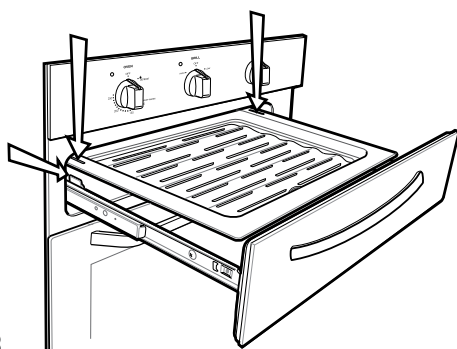

Fig. 3
- To insert the grill tray in a separate grill underbench product, fully open the drawer and position the tray so that the slots on the outer edges fit over the tabs on the slides. (Refer Fig. 3)